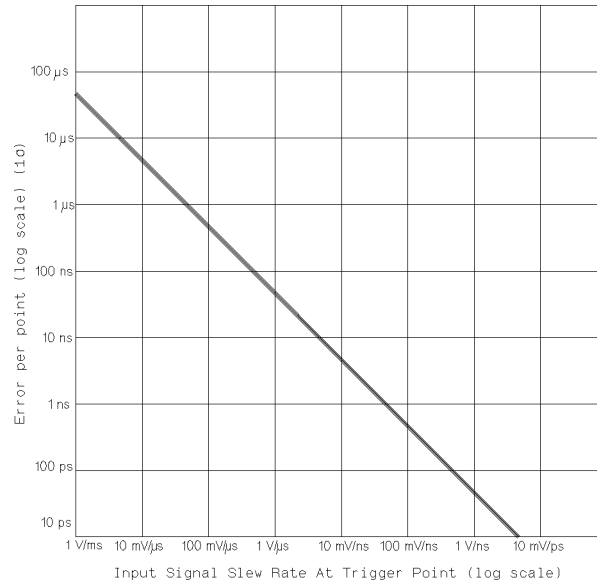

Figure 4-3. Trigger Level Timing Error
4. **Trigger Level Timing Error** (See Figure 4-3.)